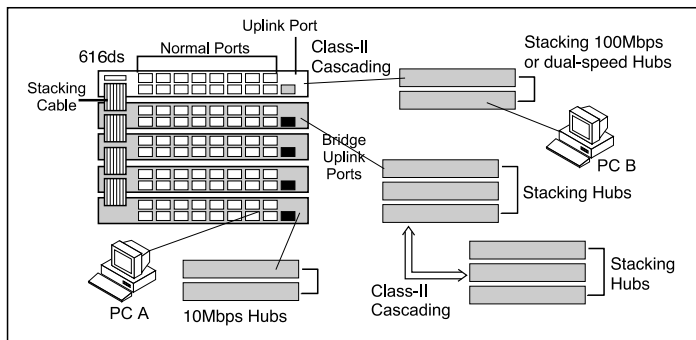

Figure 3-6 Connect to Ethernet Hubs.
- If multiple ALH-616ds are stacked together, users can connect to hubs by the uplink port in slave hubs. Therefore other hubs can perform another class-II cascading, as shown in Figure 3-6.